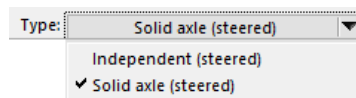
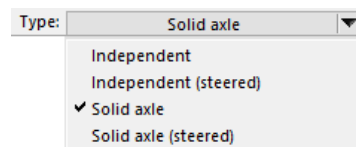

Figure 8. Options for the first suspension.
Figure 9. Options for suspensions other than the first.
- ⑯ Distance the axle center lies behind the origin of the sprung mass coordinate system (keyword = `LX_AXLE`). The convention is usually to set the front axle at position 0, thereby defining the origin of the sprung-mass coordinate system as being aligned with the front axle. However, if you define the origin of the sprung mass elsewhere, then use a non-zero value for the front axle.
- ⑰ Drop-down control for selecting a type of suspension data. There are two choices for the first axle (Figure 8) and four for the other suspensions (Figure 9). The first axle is always steered; the others have separate options for steered or unsteered.